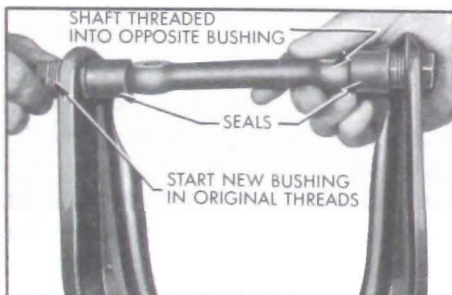

Figure 7-12—Upper Control Arm Bushing Replacement
2. Start second bushing into the upper control arm with shaft threaded into the opposite bushing. See Figure 7-12.